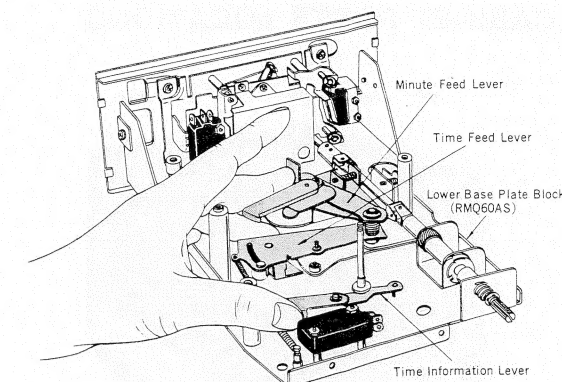

Fig. 18
4. Advance the time by turning the time adjusting knob to the position shown in fig. 18 and remove the disc plate. (The time may be advanced by turning the knob in the counterclockwise direction.)